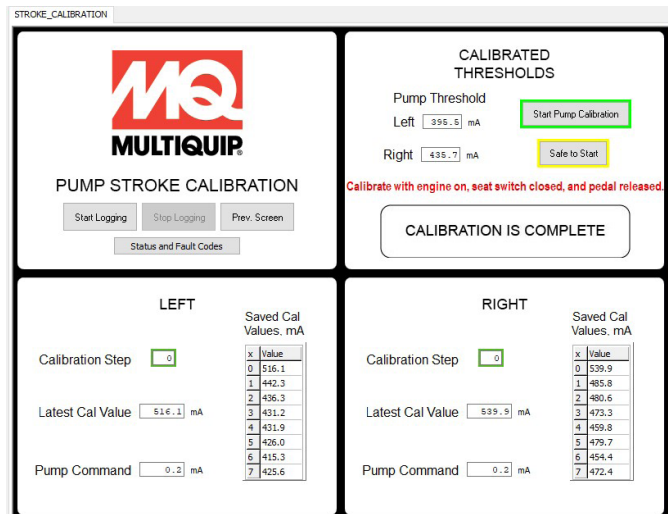

Figure 35. Start Pump Stroke Calibration
6. The operator must be on the unit to steer as needed. Have a second person press the "Start Pump Calibration" button (Figure 35) and indicate to the operator what the prompts are on the screen. The unit will slowly stroke pumps until both rotors start to turn, 8 times in a row, during this calibration.